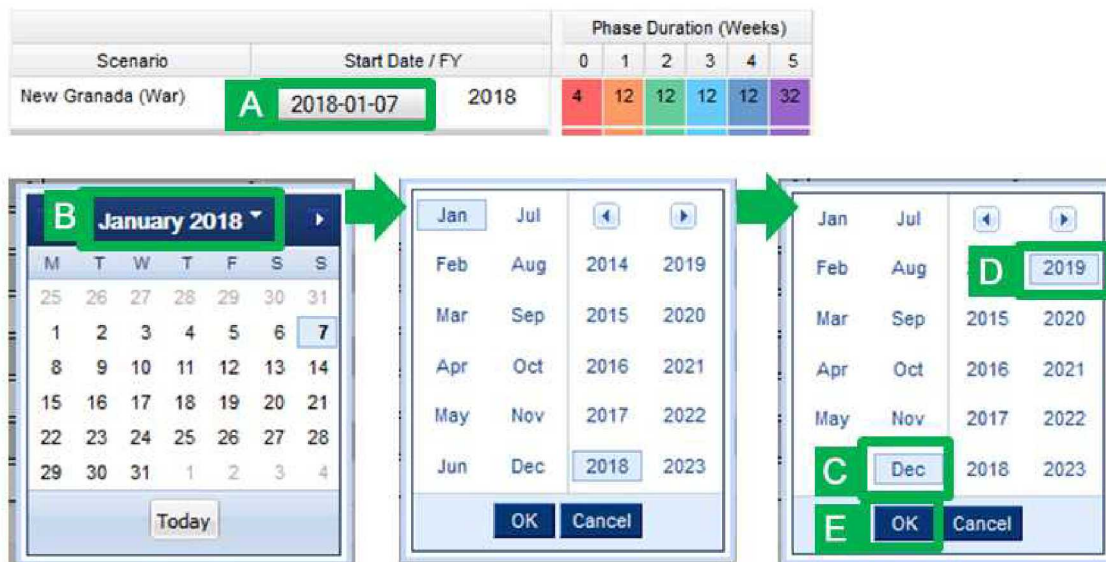

Figure 25. Selecting the month and year for a start date.
1. Click on the date in the Start Date column (step A in Figure 25).
3. Click on the right/left arrows to move forward or backward a month. Or click on the month name (step B in Figure 25).
5. Select a start month from the list on the left (step C in Figure 25).
6. Select a start year from the list on the right (step D in Figure 25).
7. Click “OK” (step E in Figure 25).